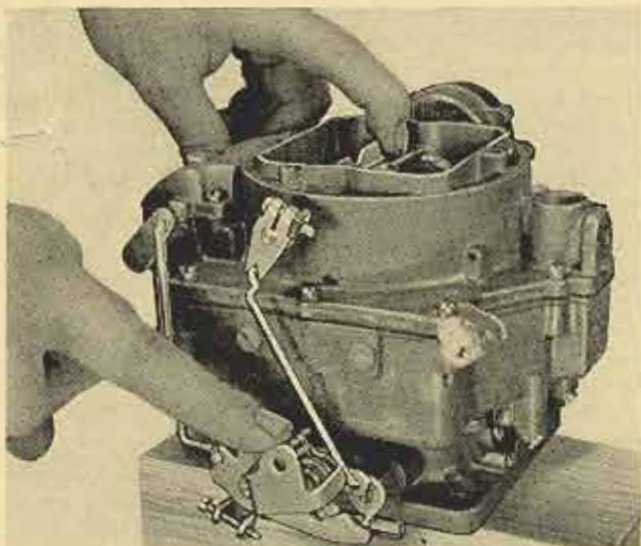
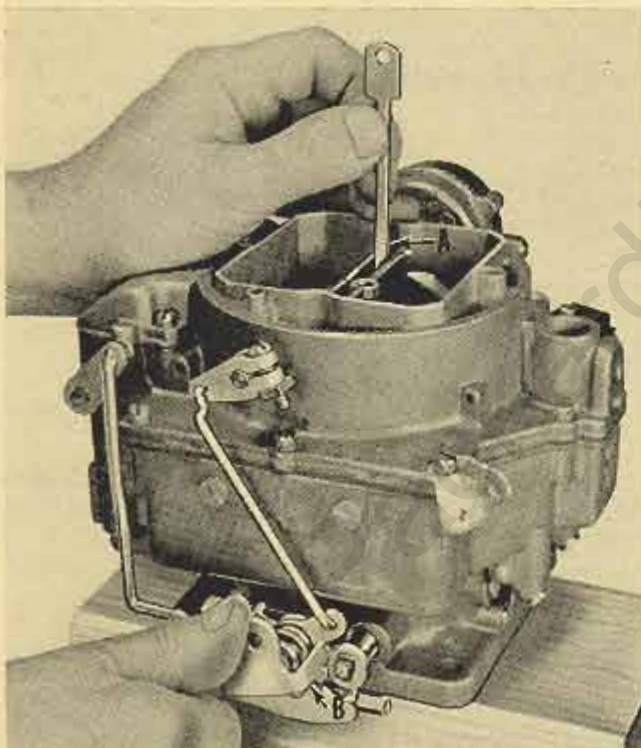

Fig. 15
Fig. 16
7. Unloader Adjustment: First hold the choke wide open, then push the throttle wide open, Fig. 15, release the choke so it will close. While holding the throttle wide open, there should be 9/32" clearance between the upper edge of the choke valve and the inner wall of the air horn. Use gauge T109-126 to measure the 9/32" clearance, "A," Fig. 16. Bend unloader lip, "B," Fig. 16 to get the proper choke valve clearance. Use Bending Tool T109-41 to bend the lip.